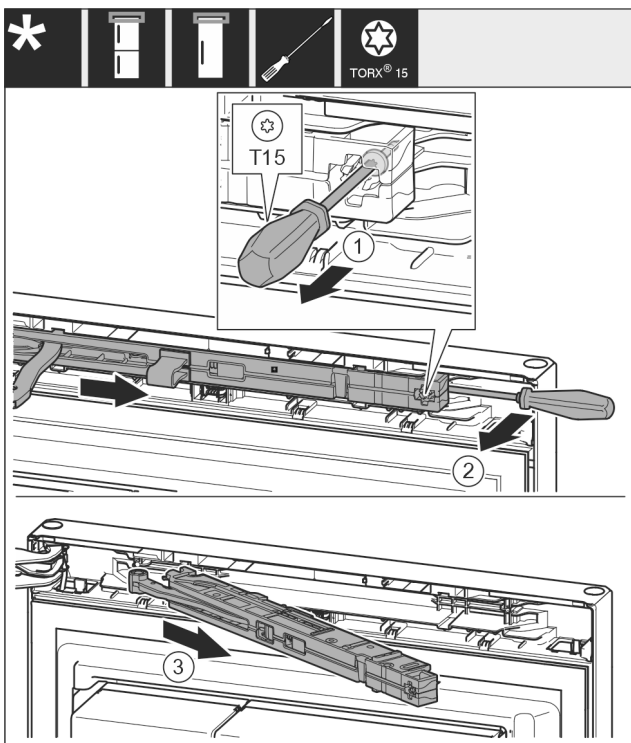

Fig. 12
- Use screwdriver to loosen the screw Fig. 12 (1) on the closing damper unit by 14 mm.
- Lever the closing damper unit Fig. 12 (2) forwards on the handle side using a screwdriver.
- Pull out the closing damper unit Fig. 12 (3).